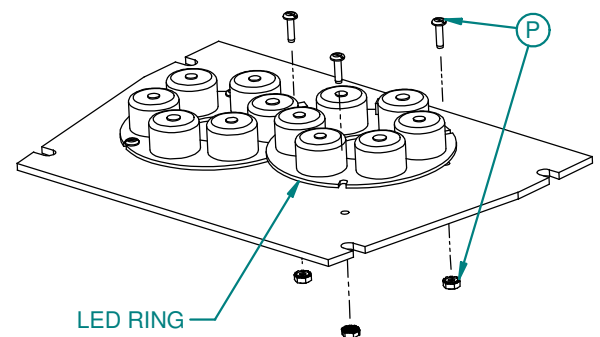

FIG. 10
- * Remove three LED ring screws and nuts (P). Remove LED ring and secure new replacement LED ring with screws and nuts. (Fig. 10)